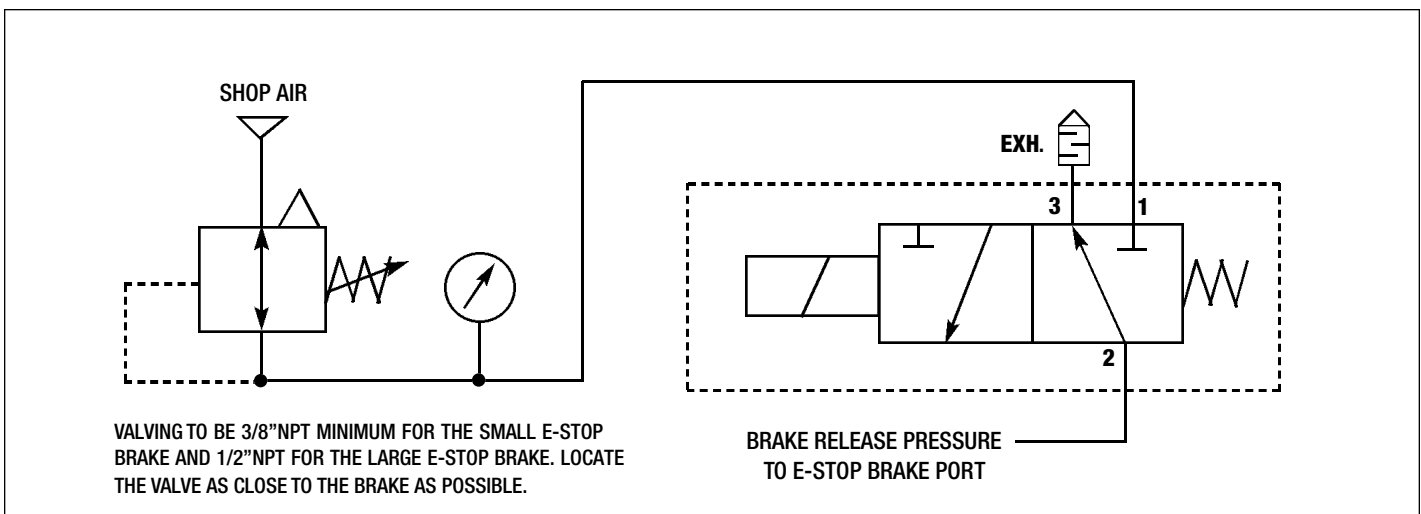

Figure 3.1 - Pneumatic Control Circuit
6. Hook up pneumatic valve and piping. (See Figure 3.1 for Pneumatic Control Circuit.)